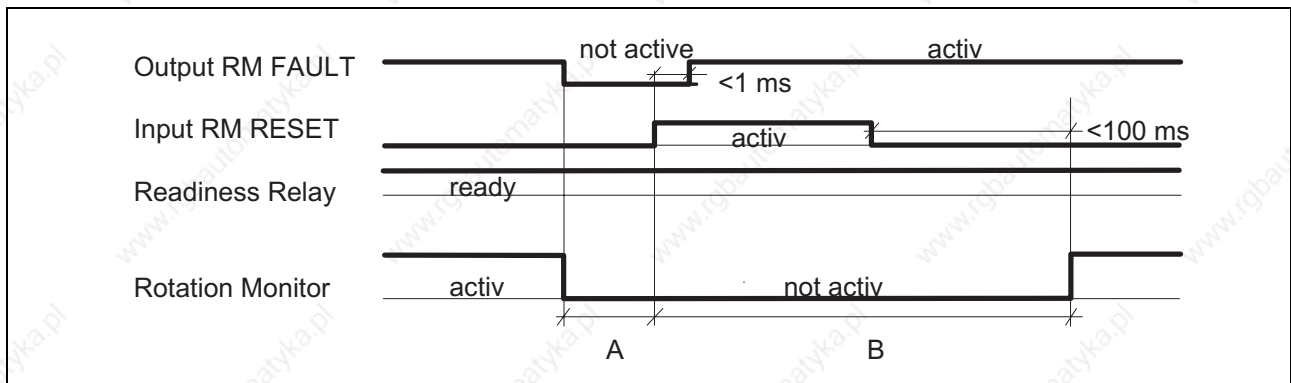

Figure 3-4 Signal Times RM RESET
- Signal times for RM RESET see figure 3-4. In the time zone A the rotation monitor is switched off, but the monitor can be driven. In the time zone B the rotation monitor is switched on; while in this state